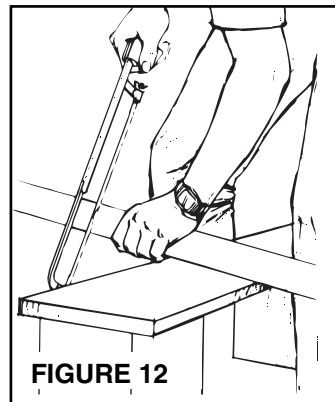

FIGURE 12
8. Refer to Figure 12. Cut tubing, keeping cut square.